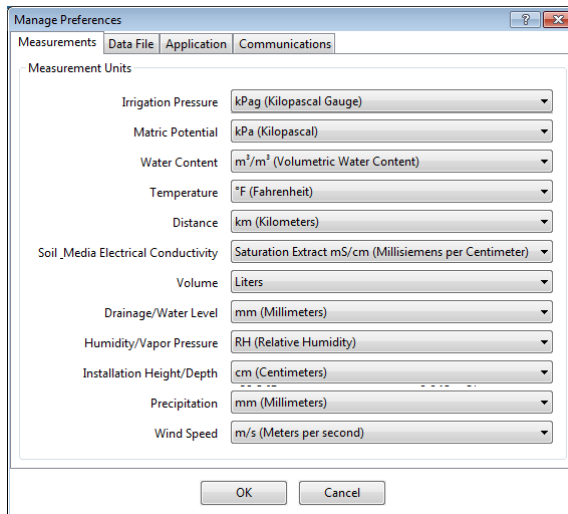

Figure 26 Measurements tab
- Measurements Tab (Figure 26):